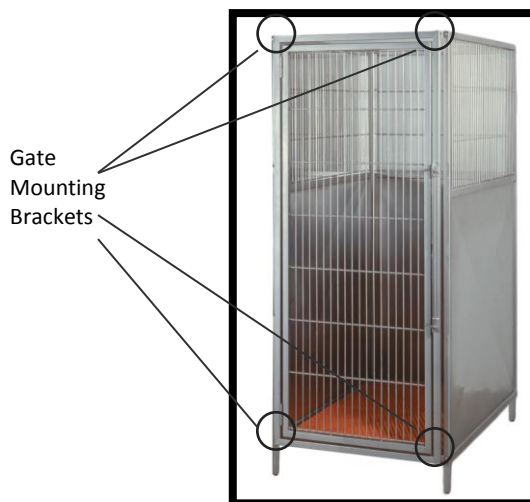

Figure 53: Swinging Gate Mounting Brackets
3. With a 1/2 in. wrench, remove the cap screws that hold the swinging gate assembly to the brackets on the pen system (Figure 53).